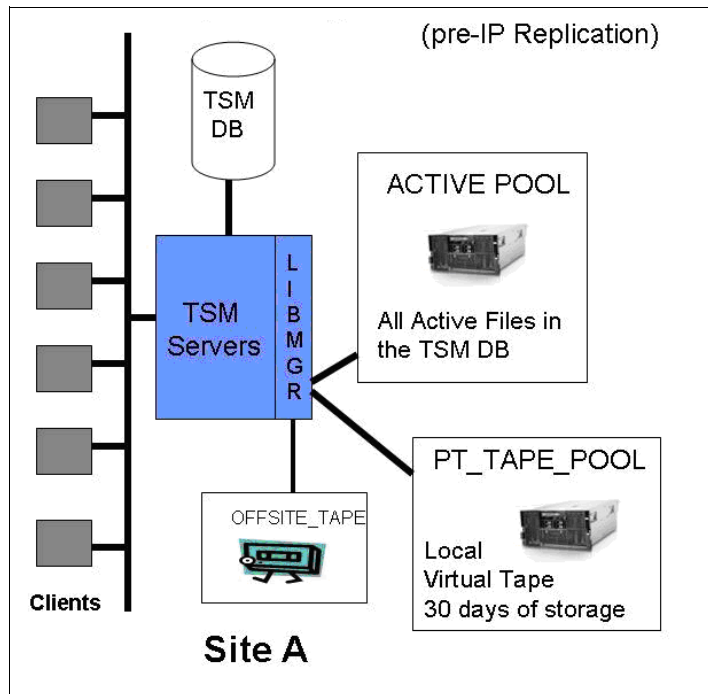

Figure 7-4 Typical Tivoli Storage Manager environment with ProtecTIER (pre-replication)
Figure 7-4 illustrates a typical Tivoli Storage Manager environment using ProtecTIER. The Tivoli Storage Manager environment is straightforward. The Tivoli Storage Manager servers are connected to storage devices (disk, real tape, or virtual tape), which are used to store data backed up from the clients it is serving. Every action and backup set that Tivoli Storage Manager processes is recorded in the Tivoli Storage Manager database. Without a copy of the Tivoli Storage Manager database, a Tivoli Storage Manager server cannot restore any of the data that is contained on the storage devices.
- ▶ The ONSITE TAPE pool (called PT\_TAPE\_POOL in Figure 7-4)